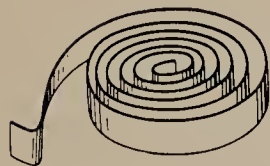

FIGURE 2.10 Coil-type thermostat. The coil winds up or unwinds as the temperature goes up or down. The resulting motion can be used to operate a control.
2.17 The Thermostat. Different metals expand at different rates with increasing temperatures. Aluminum expands about twice as much as iron as their temperatures go up. This difference in expansion rates is used in thermostats. Thermostats do numerous jobs in small engines and in automobiles. One type is shown in Fig. 2.10. It consists of a coil made up of two strips of different metals, brass and steel, for example, welded together. When the coil is heated, one metal expands faster than the other, causing the coil to wind up or unwind.